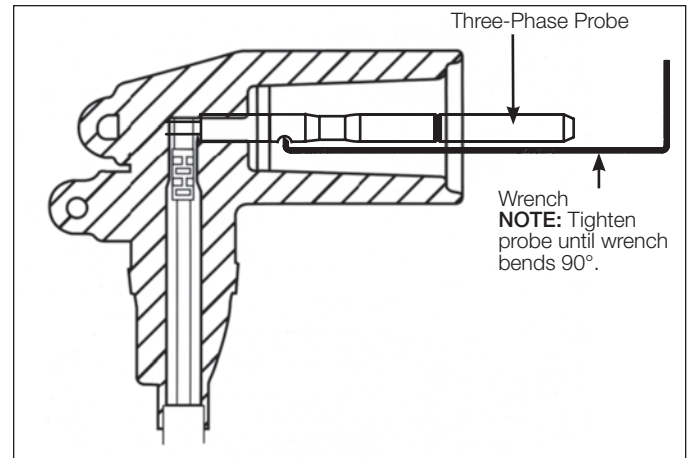

Figure 3.
- Thread the “new” three-phase (21.1/36.6 kV) probe into the elbow with the other wrench and tighten probe until the wrench bends 90°. (See Figure 3.)